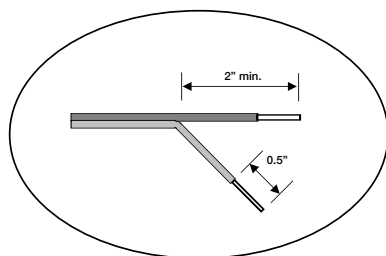

Figure 16 Wire Stripping Details
3. Separate the speaker end of the two-conductor speaker-wire run to free at least 2" of each conductor. Strip 1/2" of insulation from the end of each conductor. (**See Figure 16**).